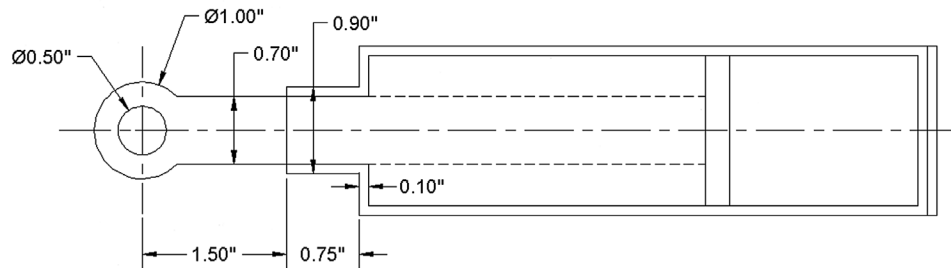

FIGURE 8.29 Creating side view.
Step 9. Continue adding the basic geometry to the side view, as well as hidden and centerlines, as shown in Fig. 8.29. Set LTSCALE to .4.